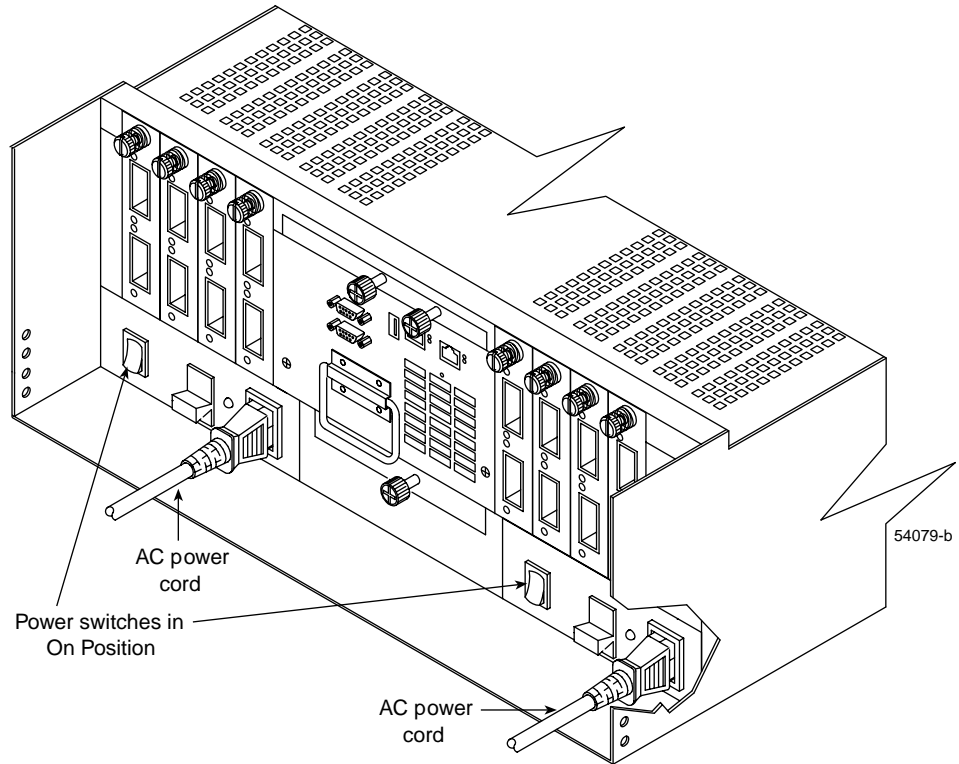

Figure 3-2 Turning the Power On
2. Turn on both power switches on the rear of the controller enclosure (see Figure 3-2). You must turn on both switches to take advantage of the redundant power supplies. Then, go to “Checking the Controller Enclosure Indicator Lights” on page 37.
4. Once the air temperature is below the upper operating temperature of 45 °C (113 °F), turn on both power switches on the rear of the controller enclosure (see Figure 3-2). You must turn on both switches to take advantage of the redundant power supplies. Then proceed to “Checking the Controller Enclosure Indicator Lights” on page 37.
2. Turn on the power (see Figure 3-2 on page 32).
- c. Turn on both power switches on the rear of the controller enclosure (see Figure 3-2). You must turn on both switches to take advantage of the redundant power supplies. Then, proceed to “Checking the Controller Enclosure Indicator Lights” on page 37.
3. Turn off the power switches on the rear of the controller enclosure (see Figure 3-2).